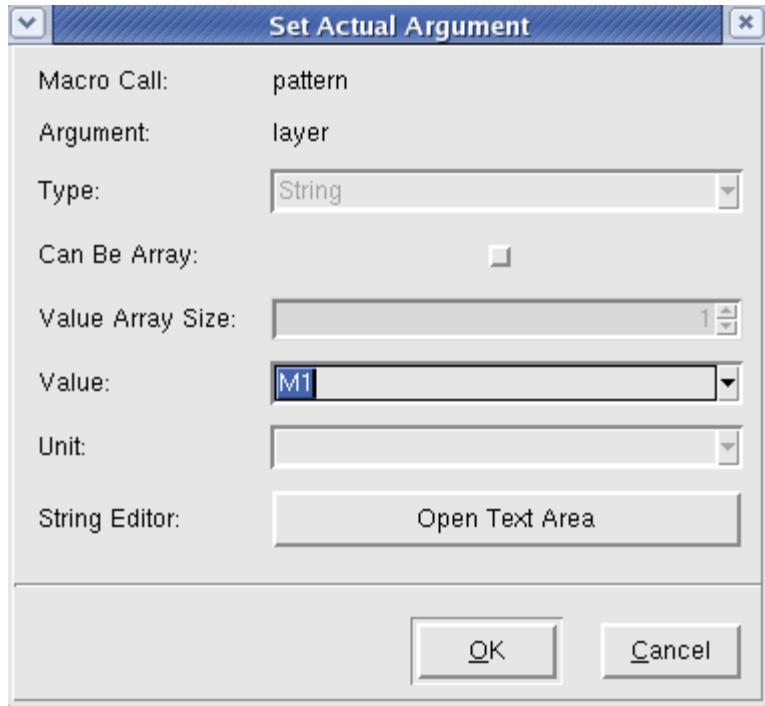
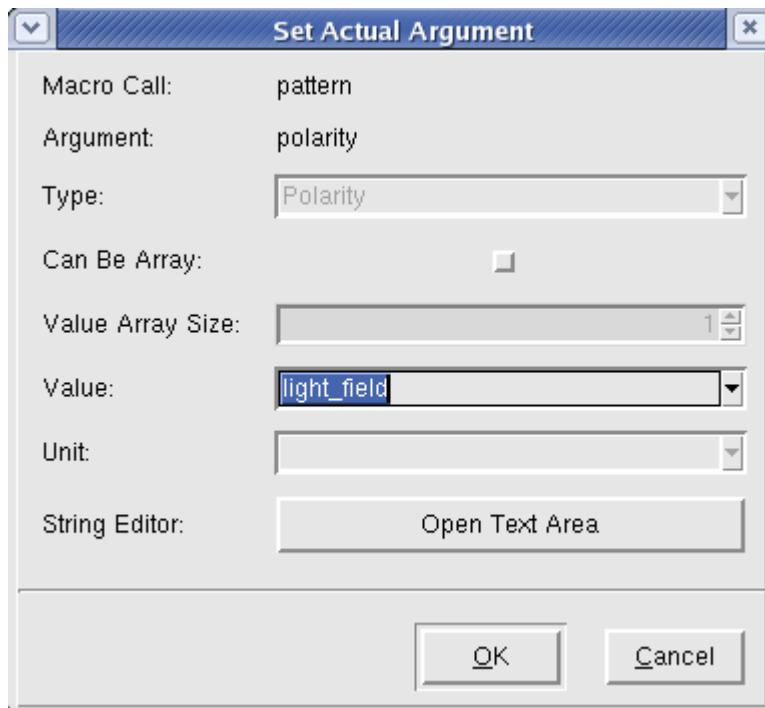
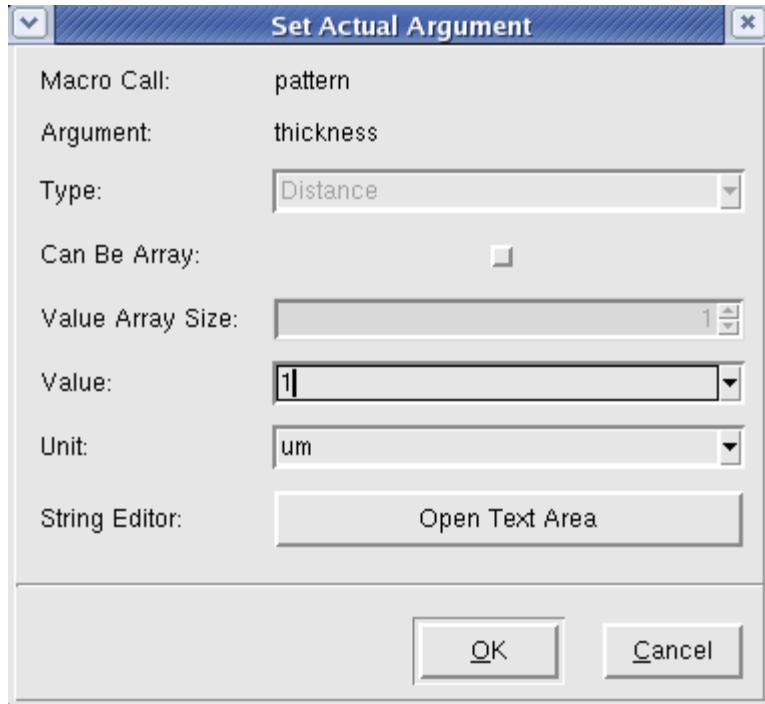

Figure 87: Pattern the M1 layer.
Figure 88: Setting Polarity.
Figure 89: Setting thickness.
20. Pattern the the M1 layer by adding a pattern statement. Set the layer to M1 (Figure 87), the polarity to light\_field (Figure 88), and the thickness to 1um (Figure 89).